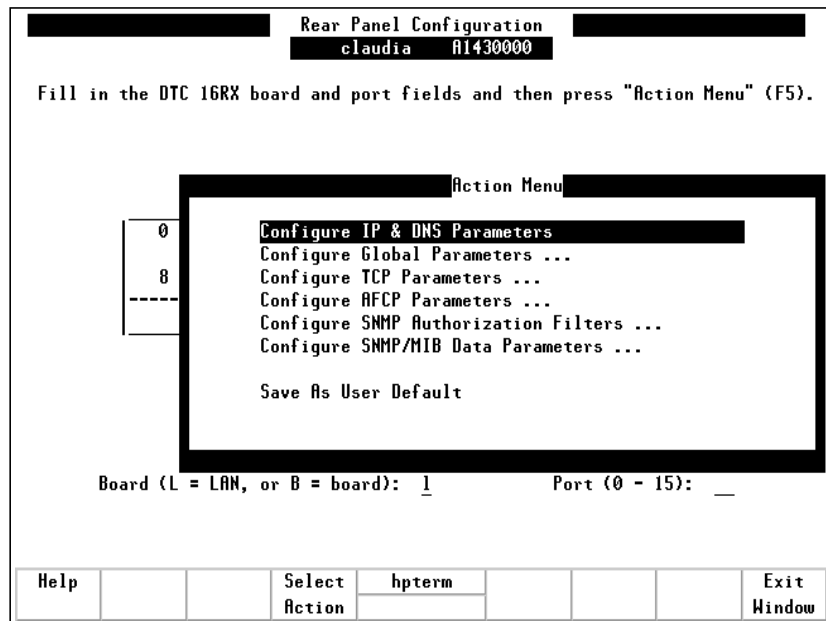

Figure 3. DTC LAN Board Action Menu
- 3 Press the **Action Menu (F5)** function key for a list of action options. See figure 3.